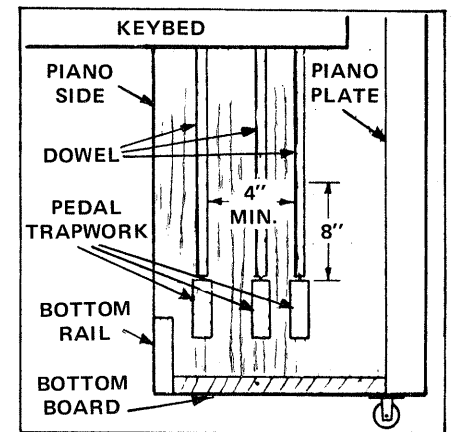

FIGURE 1-20 Determine if a clearance of 4" is available.
- A. With BOTH the Soft and Sustain Pedal Dowels at the left side of the piano, see if a clearance of 4" minimum is available between these dowels and that the 4" clearance is maintained from the top of the Trapwork up to a height of 8" as shown in FIGURE 1-20.